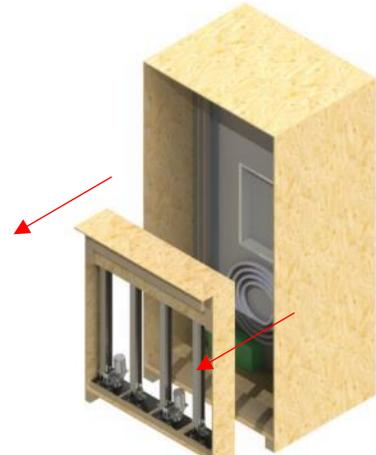

Figure 38
11) With the help of another person, remove the jack box from the crate and place it in a safe place. (Figure 38)